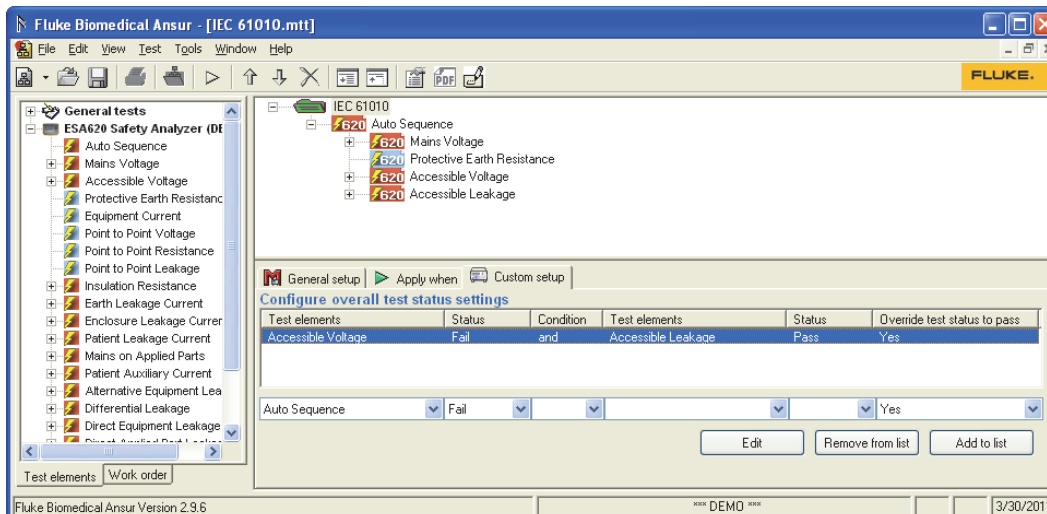

Figure 3-50. Add First Test Element to Override Condition
1. Click the down arrow at the right end of the **Test elements** combo box as shown in Figure 3-50 and highlight the test element that is relevant to the first part of this condition.